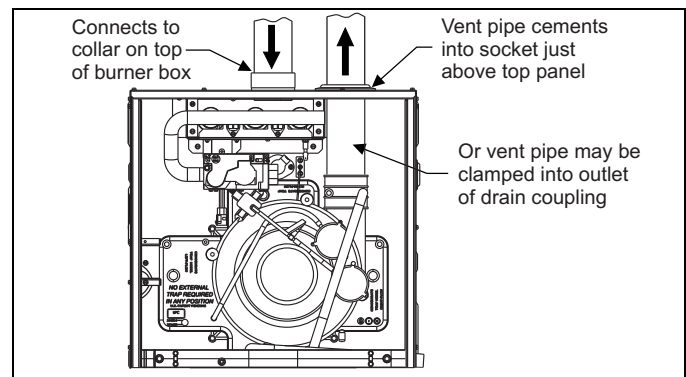

FIGURE 41: Direct Vent Air Intake Connection and Vent Connection
2. **AMBIENT COMBUSTION AIR:** Combustion air is supplied from the area surrounding the furnace through openings in the furnace casing. The combustion air and the vent pipes are not terminated in the same atmospheric zone. Refer to Figure 33 for vent terminations. Refer to "Ambient Combustion Air Supply" for proper installation. Refer to Figure 41.